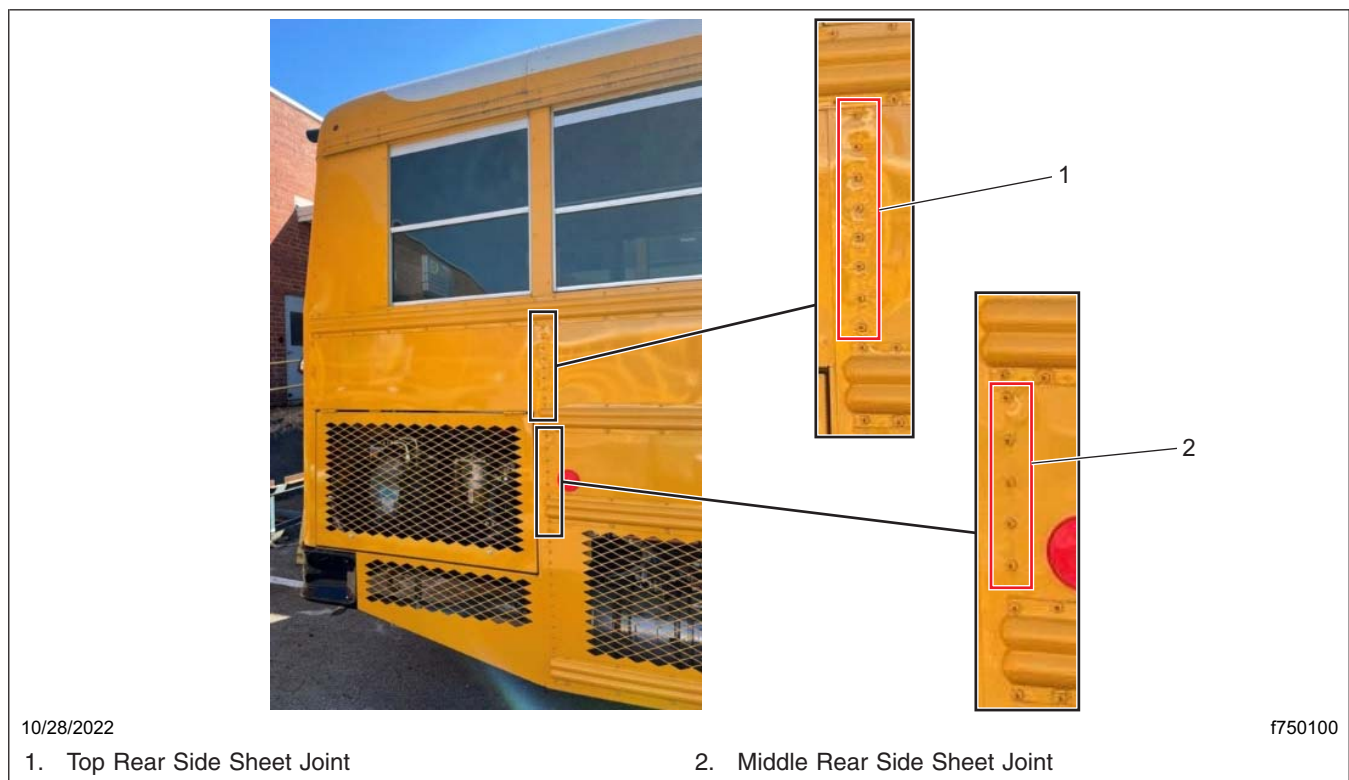

Fig. 1, Rear Exterior Side Sheet Joints
4. Locate the rear upper exterior side sheet joints. See **Fig. 1**.